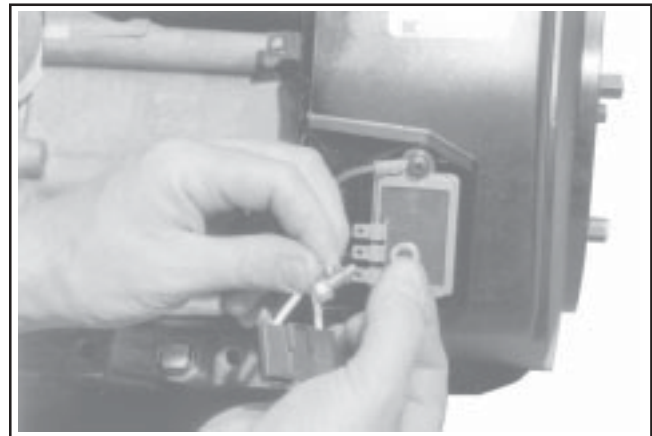

Figure 11-69. Connecting Ground Lead.
1. Install the rectifier-regulator in the blower housing, if removed previously, then connect the rectifier-regulator ground lead with the washer and silver screw through the eyelet as shown in Figure 11-69. If a grounding bracket is used, secure with the lower mounting screw and washer, against the **outer** side of the rectifier-regulator. See Figure 11-71.